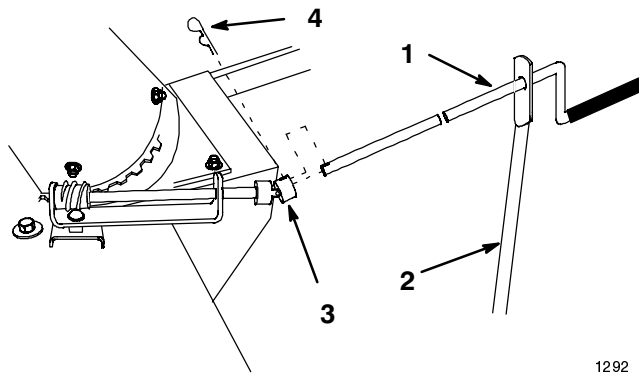

Figure 24
5. Remove the chute control rod by removing the hairpin cotter connecting it to the universal joint (Fig. 24). Slide the chute control rod out of the end of the crank support.